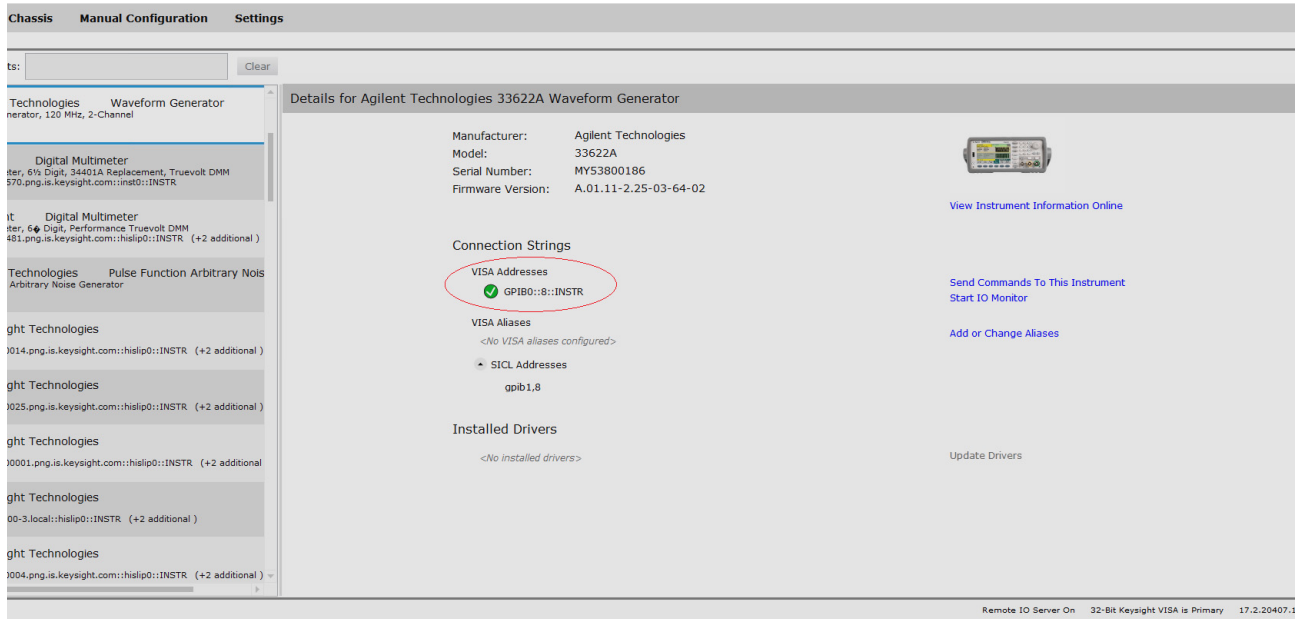

Figure 32 Checking VISA/SICL Address for Injecting Signal Source in the Keysight Connection Expert
- 13 A pop-up box appears where you can enter either the VISA/SICL address or the IP address. Enter the information and click the **Verify** button, followed by the **Done** button to close this box. The VISA/SICL address or the IP address can be obtained from the Keysight Connection Expert application, as shown in Figure 32.
- 16 Click the **Connect** button. A pop-up box appears where you can enter either the VISA/SICL address or the IP address. Enter the information and click the **Verify** button, followed by the **Done** button to close this box. The VISA/SICL address or the IP address can be obtained from the Keysight Connection Expert application, as shown in Figure 32.
- 13 Click the **Connect** button. A pop-up box appears where you can enter either the VISA/SICL address or the IP address. Enter the information and click the **Verify** button, followed by the **Done** button to close this box. The VISA/SICL address or the IP address can be obtained from the Keysight Connection Expert application, as shown in Figure 32.